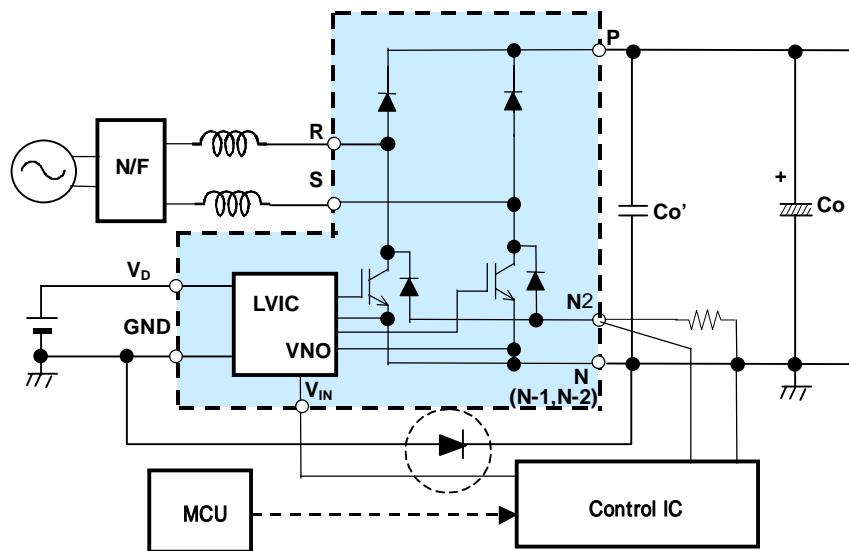

Fig. 12 DIP-PFC Interface
- The area of P-Co-N shown in Fig. 12 should be as small as possible because the rectangle shaped switching current flows on this route. In addition, please add a bypass condenser Co' with good frequency response such as a polypropylene film condenser closely to the P and N terminals.